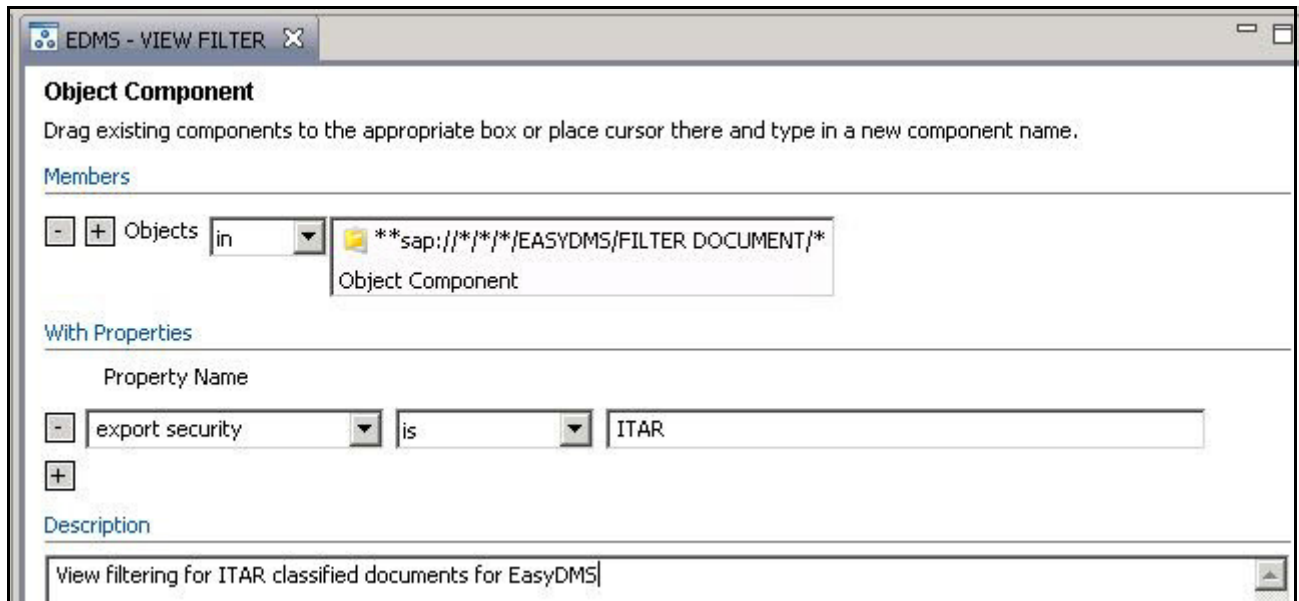

Figure 6-30: SAP Resource Component for View Filtering
- For the Resource, create an SAP component with `EASYDMS` as the SAP application and `FILTER DOCUMENT` as the function in the resource string, as in Figure 6-30. You can also apply properties to the resource. This component applies to all documents that are classified ITAR.